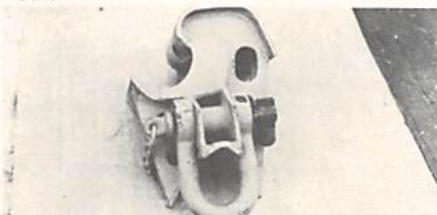

Fig. 1
- (ii) The transition coupler, consists of a fixed jaw at one end and a V plate and shackle at the other end (see fig. 1).